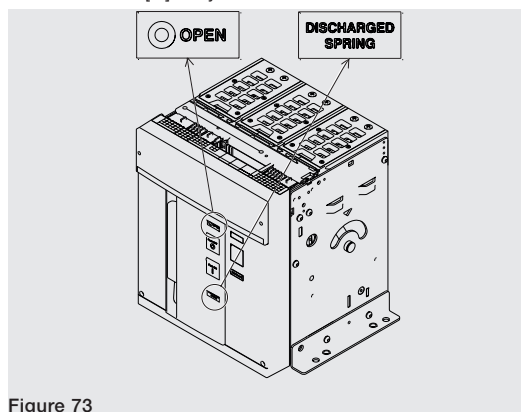

Figure 73
1. Check that the circuit-breaker is open (open / closed indicator "O - OPEN"), and check that the springs are discharged (spring signalling device "white - DISCHARGED SPRING") as indicated in Figure 73.